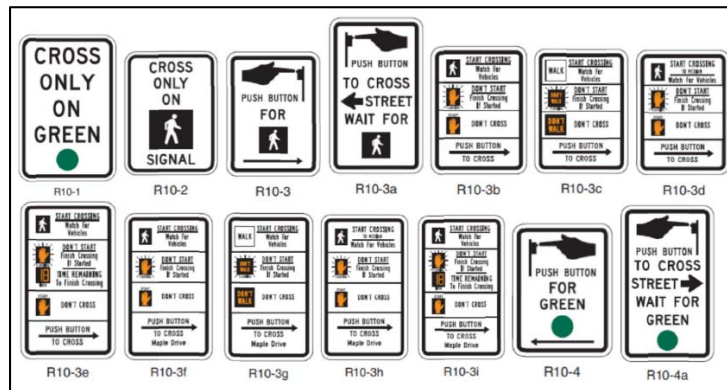

Figure 17 – Push Button Signs
- Pedestrian push button signs matches one of the designs in **Figure 17**